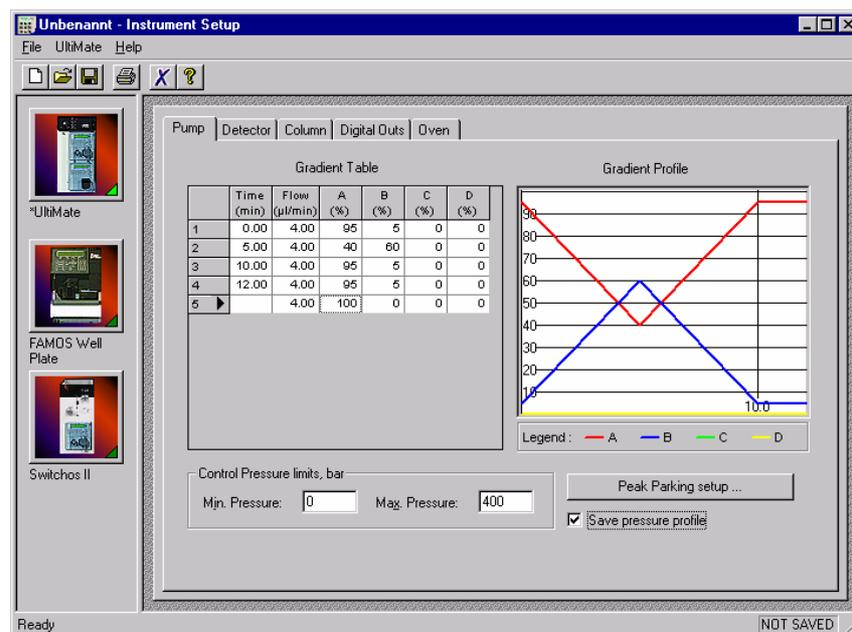
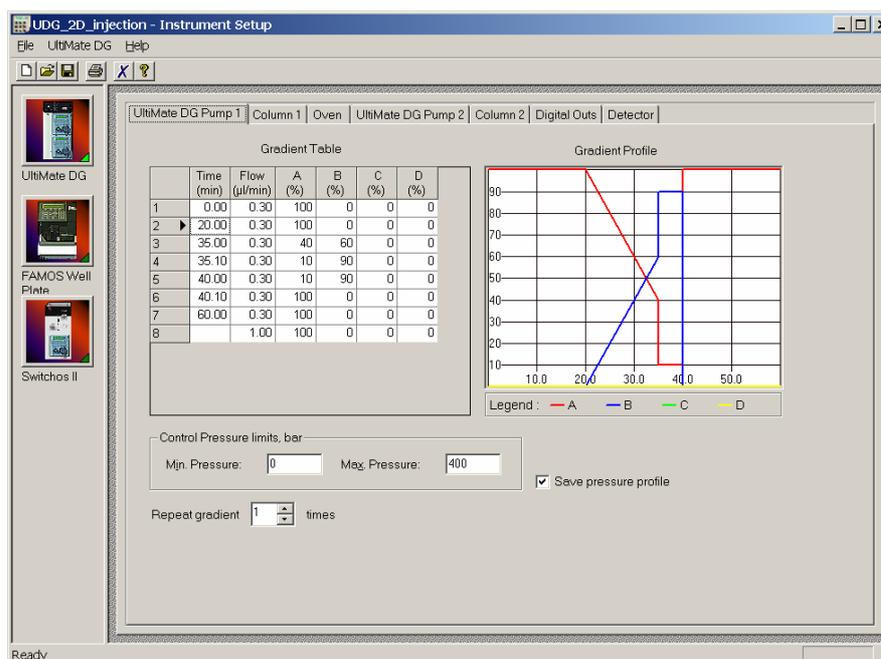

FIGURE 2-26 The Instrument Setup Window of the UltiMate System
FIGURE 2-27 The Instrument Setup Window of the UltiMate Dual Gradient
- b) Click the *Instrument Setup* icon. If your system includes a single gradient UltiMate system, the **Instrument Setup** window presented in FIGURE 2-26 will appear. FIGURE 2-27 presents the Dual Gradient setup.
- Choose the **Pump** tab in the **Instrument Setup** window to display the pump setup window (FIGURE 2-26).